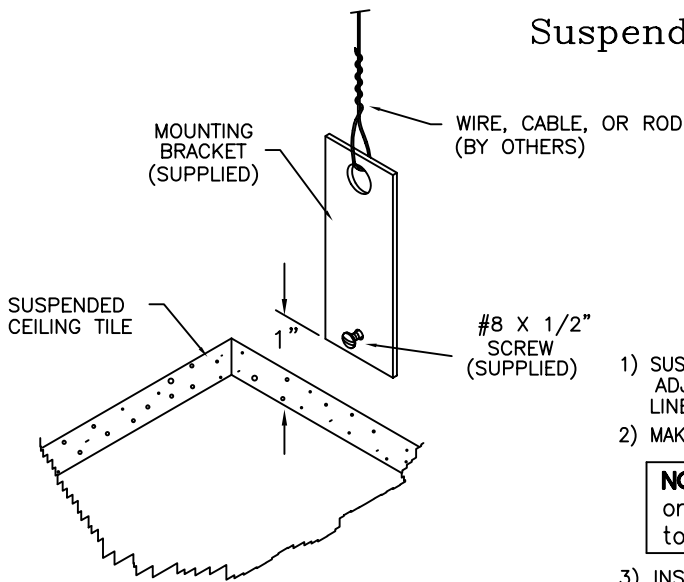

FIGURE 4
- 1) SUSPEND MOUNTING BRACKETS FROM STRUCTURAL CEILING WITH WIRE, CABLE OR ROD. ADJUST LENGTH SO BOTTOM EDGE OF BRACKET IS 1" ABOVE FINISHED CEILING LINE (SEE FIGURE 4)